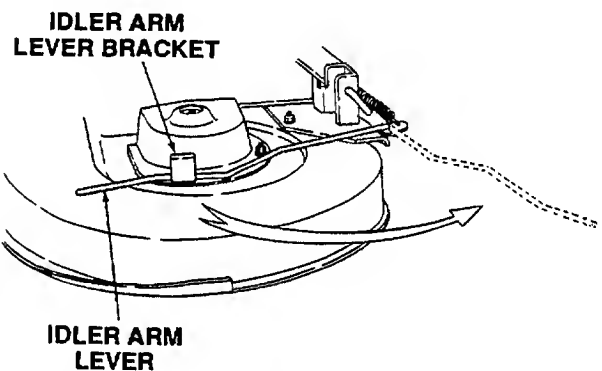

Figure 53
10. Disengage the deck idler arm lever from its stop bracket and release the spring tension until the lever is at the outside of the deck. (Refer to Figure 53.)